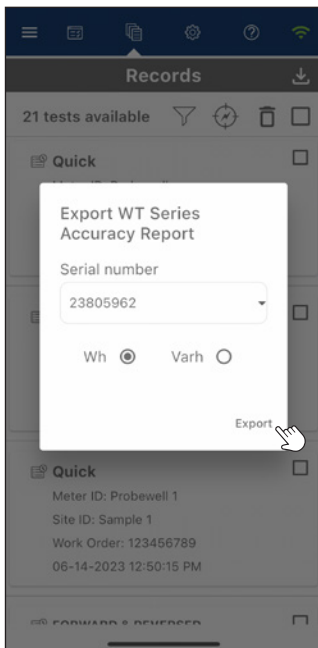

Figure 2
- Click Export to close the window and continue the export process. (Figure 2)